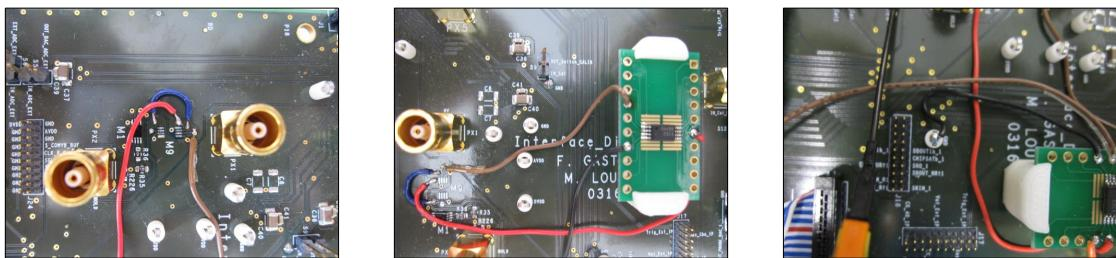

Figure 1.24: Interface connections
4. Referring to Figures 1.24 and 1.23, connect with some wires the pins in this way:
6. Now connect the interface holes around the M9 chip as shown in Figures 1.24 (blue cable). In the document I was given those are called pin number 1 and 7. Anyway, as I said, without the schematics those numbers are meaningless. Sometimes I wonder if Physicists are really so smart as they think to be.